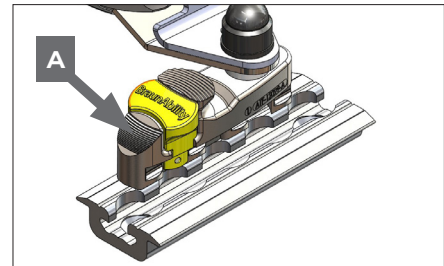

Figure 2
4. Attach each tie-down into the rail floor by aligning the ATF (aluminium track fitting) feet with the cut-out sections of the rail, (Fig. 2). **Note:** the yellow plungers must face toward the rear of the vehicle. Press down on the ribbed part of the ATF, (Fig. 2A) and push firmly down towards the wheelchair until the yellow plunger drops and locks into the rail.